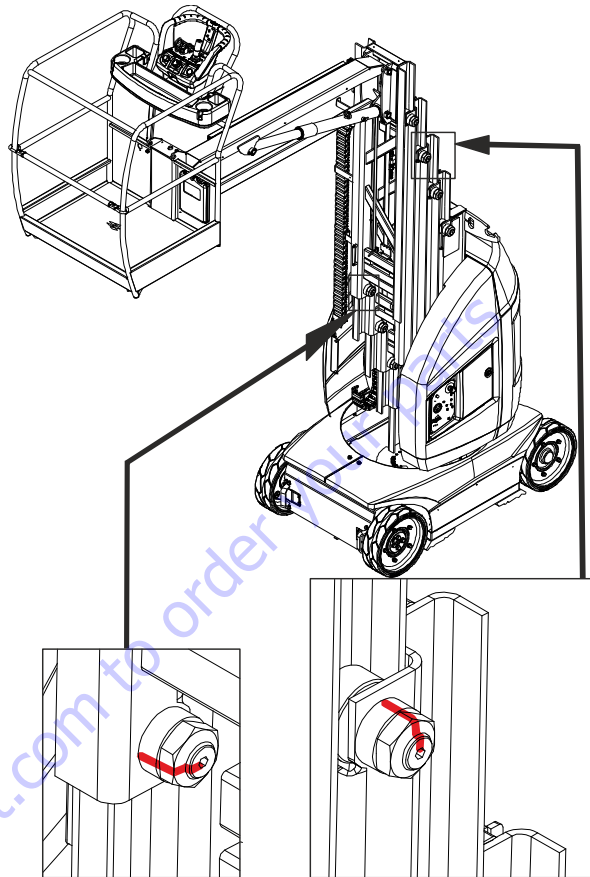

Figure 5-28. Top and Bottom Rollers
15. Visual marking is required: mark the rollers with a paint mark as shown in Figure 5-28.